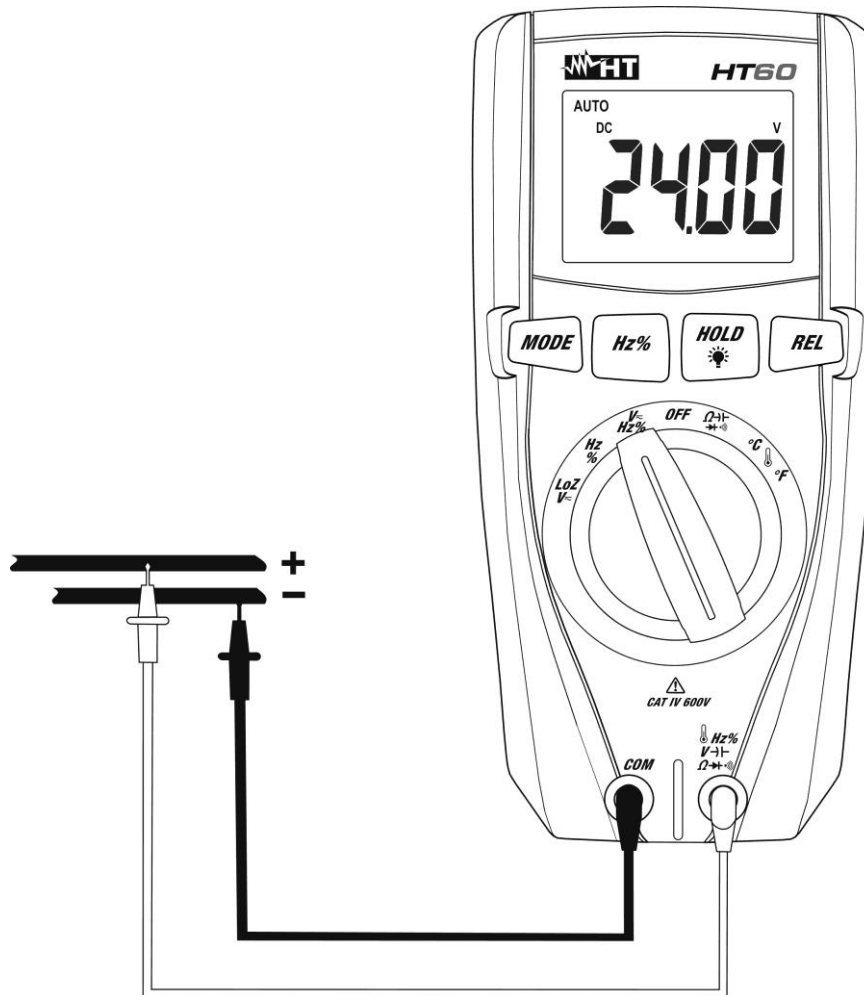
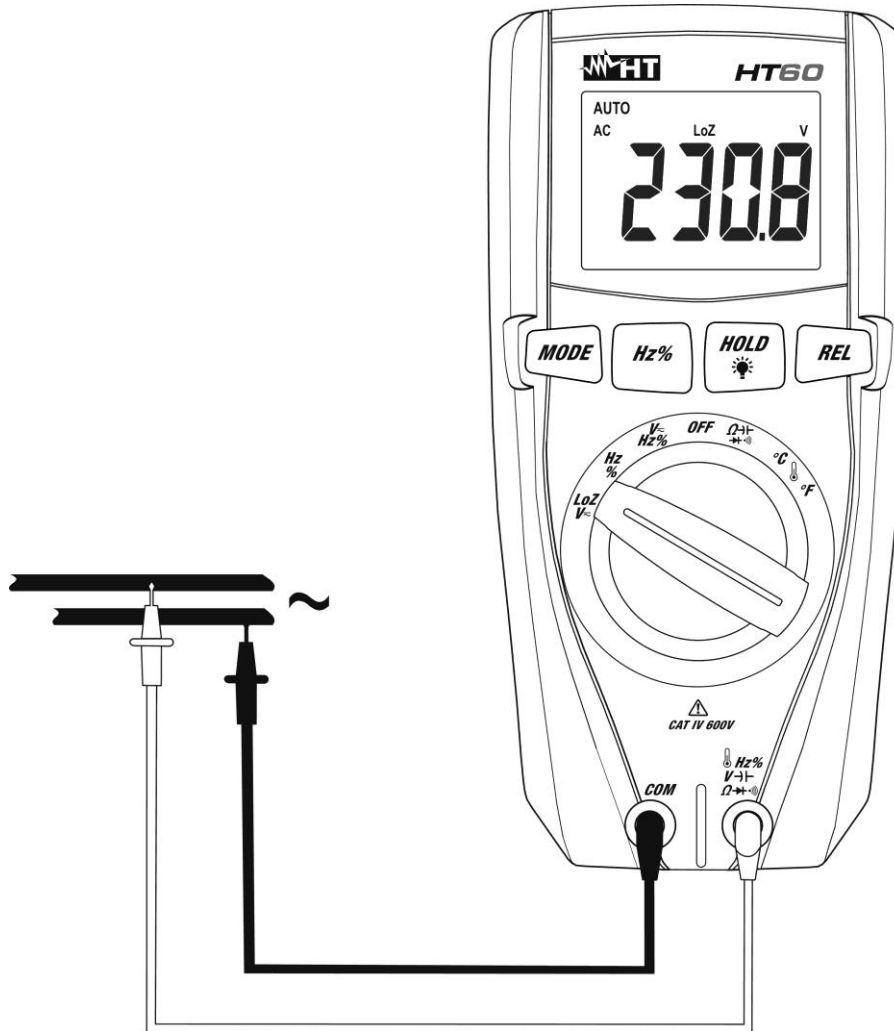

Fig. 2: Use of the instrument for DC voltage measurement
Fig. 4: Use of the instrument for AC/DC voltage measurement with low impedance (LoZ)
4. Position the red lead and the black lead respectively in the spots with positive and negative potential of the circuit to be measured (see Fig. 2). The display shows the value of voltage.
6. When symbol "-" appears on the instrument's display, it means that voltage has the opposite direction with respect to the connection in Fig. 2.
4. Position the red lead and the black lead respectively in the desired spots of the circuit to be measured (see Fig. 4) or in the spots with positive and negative potential of the circuit to be measured (see Fig. 2). The display shows the value of voltage.